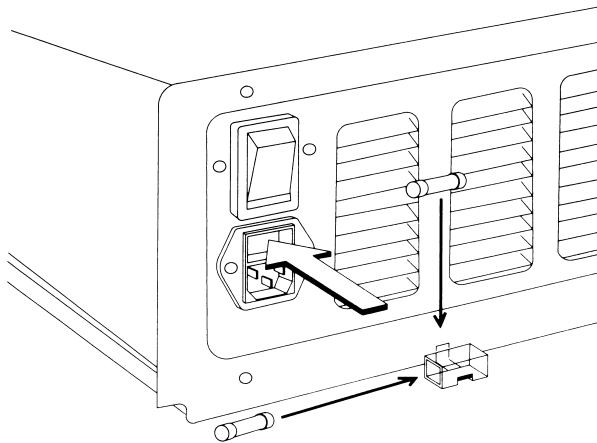

Figure 7-9. Replacing the Power Fuse.
3. To replace the fuse holder, set the fuse holder back into position, and press in on the holder until you feel it snap into place (Figure 7-9).